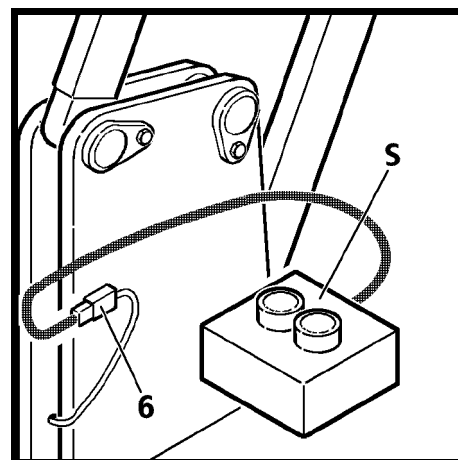

Fig. 19
- 5- Connect control device S (Fig. 19) to plug 6.